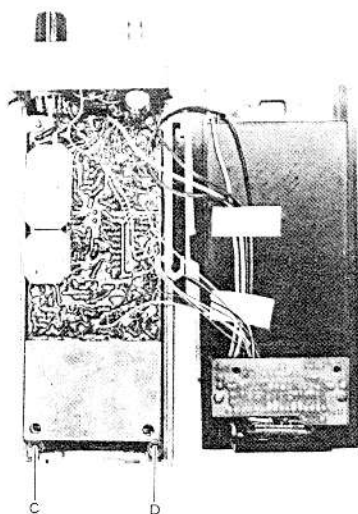

Figure 2
- (2) Remove screws C and D in Fig. 2. The front panel may now be carefully removed. Be certain not to put undue strain on the inter-connection wires.